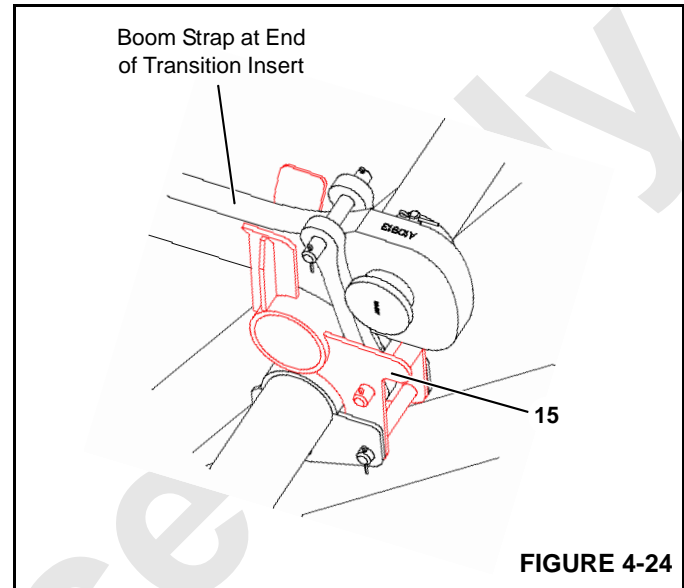

FIGURE 4-24
- If the transition insert will be shipped with the wind attachment, strap brackets (15, Figure 4-24) can remain
- If the transition insert will not be shipped with the wind attachment, remove strap brackets (15, Figure 4-24) from the transition insert. Store strap brackets (15) on the boom cap as shown in Figure 4-11, View A.